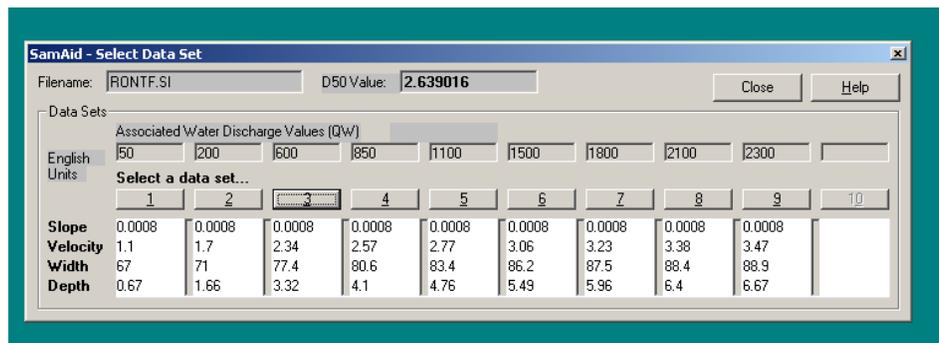

Figure F-2. Select Data Set screen showing input read from a file.
2. If an input file has been read in, select a "data set," Figure F-2.
F-5. Select Menu. The dropdown menu offers two choices, “Data Set...” or “Transport Function...” A mouse click on “Data Set...” will bring up the Select Data Set screen, Figure F-2. This screen appears automatically when a SAM.sed input file is opened, and will stay available. This dropdown menu choice is convenient if the user wishes to reopen the Select Data Screen once it has been closed.